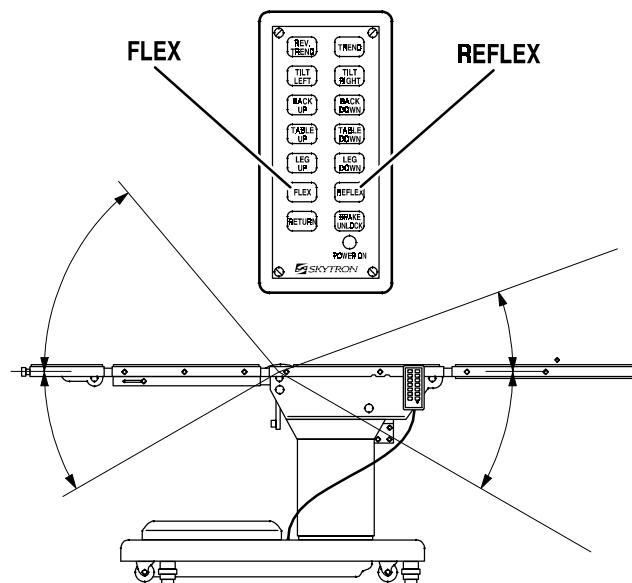

Figure 3-10. Flex/Reflex Positioning
**h. Flex Positioning.** To place the table top in a flex position from horizontal, press the FLEX button (figure 3-10). To return the table top to a horizontal position or into a reflex position, press the RETURN or REFLEX button.